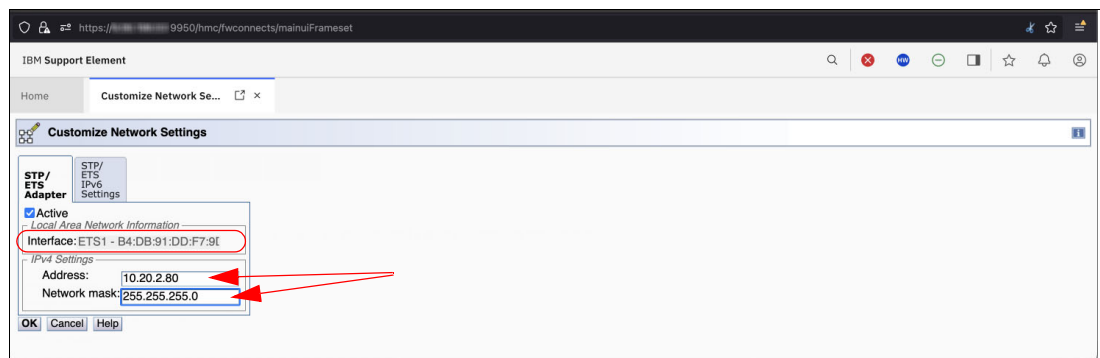

Figure 4-3 IP address and netmask information (IPv4).
2. Enter the address and network mask for the ETS interface as shown in Figure 4-3.